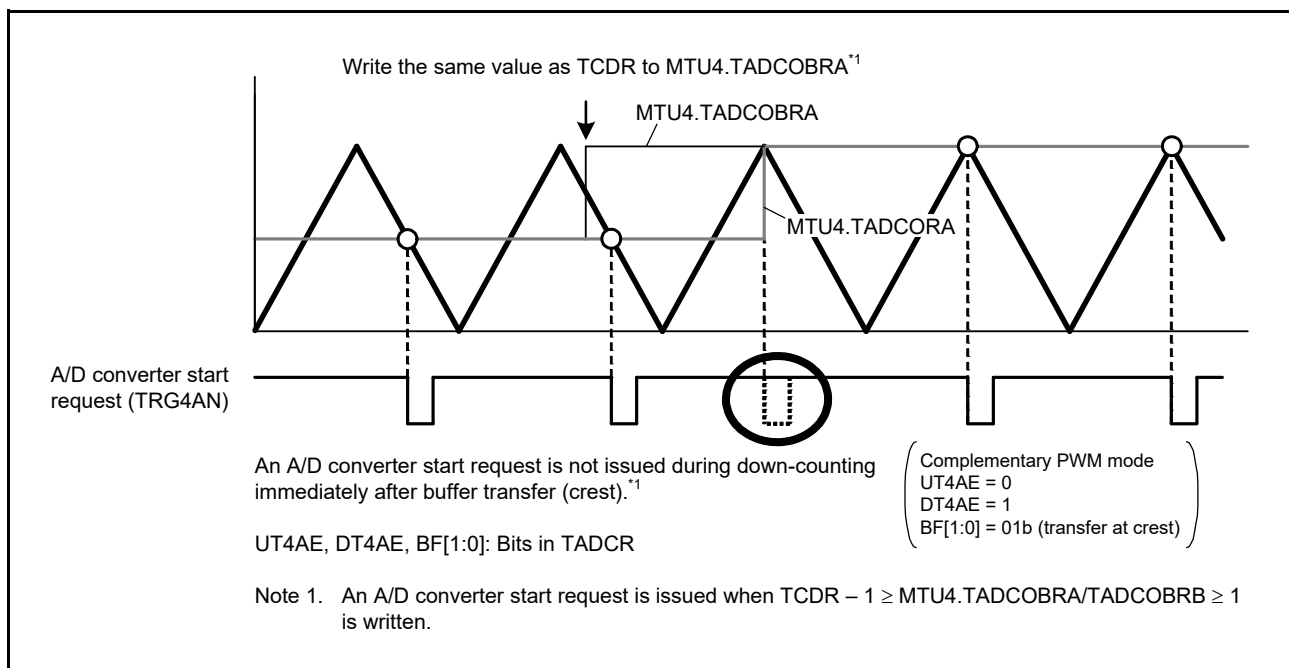

Figure 19.142 A/D Converter Start Request When the Same Value as TCDR is Written to MTU4.TADCOBRA
- When data is transferred from a buffer register at the crest of the MTU4.TCNT counter while the MTU4.TADCOBRA and MTU4.TADCOBRB registers are set to the same value as the TCDR and the UT4AE and UT4BE bits in the MTU4.TADCR register are set to 1, no A/D converter start request is issued during down-counting immediately after transfer. Refer to Figure 19.142.